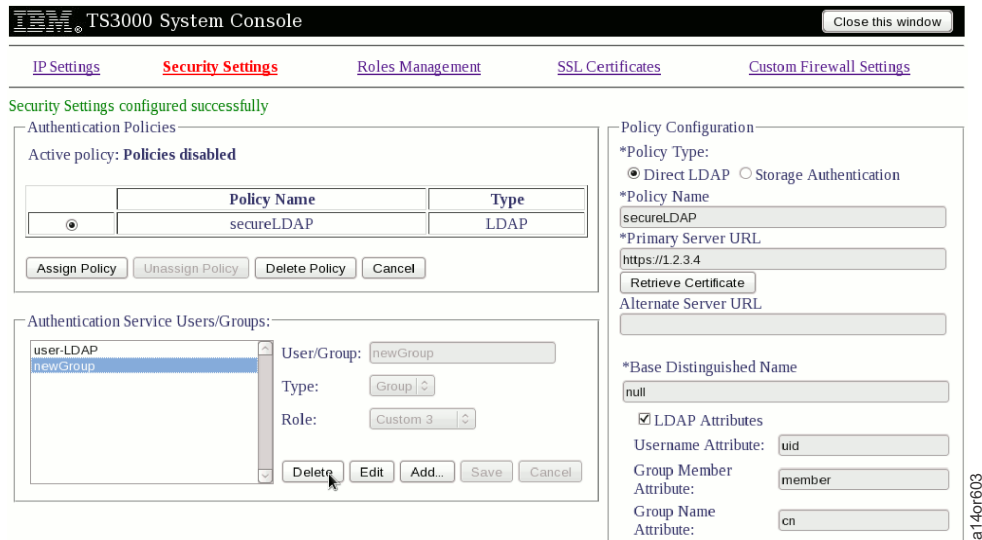

Figure 106. Manage Authentication Service Users/Groups
- **Edition:** Select the wanted entry from the list on the right and click **Edit**. Then, edit the entry and click **Save**. A message shows if the changes were applied successfully. See Figure 106 on page 83.
- **Addition:** Click **Add**. Enter the name of the User/Group and select the Type and designed Role, then click **Save**. A message shows if the changes were applied successfully. See Figure 106 on page 83.